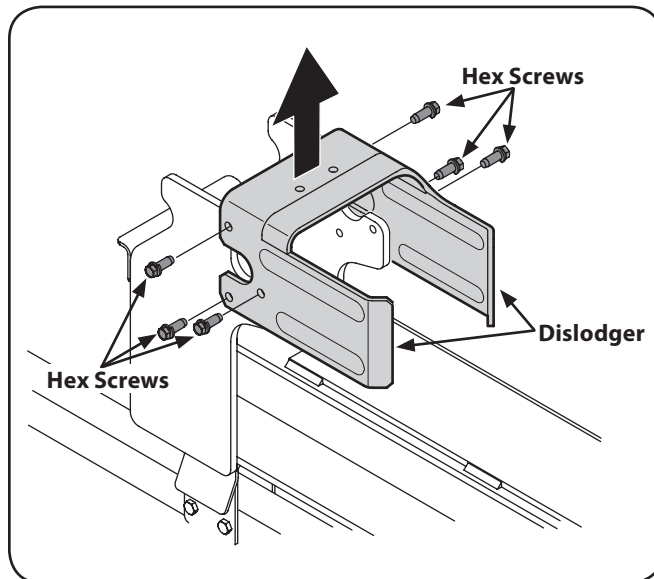

Figure 3-4
2. Disconnect the dislodge from the beam weld bracket by removing the six hex screws. See Fig. 3-4.